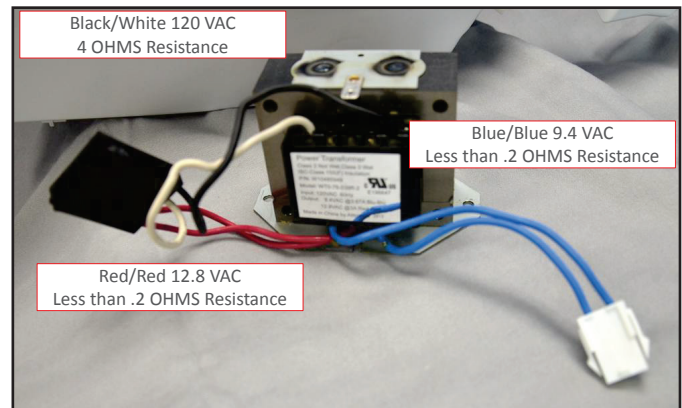

FIGURE 24
**NOTE:** The transformer doesn't have to be removed to make voltage and resistance checks. See *Figure 24*.